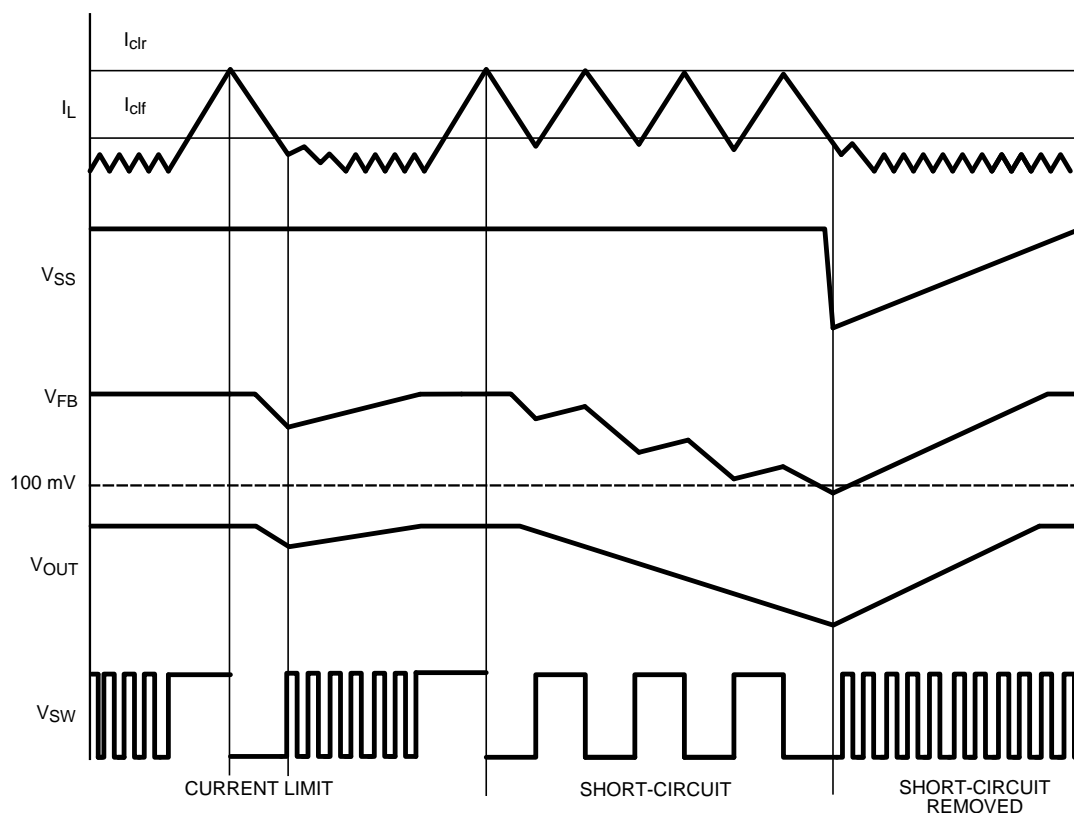

Figure 25. Current Limit Conditions
A current limit condition will cause the internal soft-start voltage to ramp downward. After the internal soft-start ramps below the Feedback (FB) pin voltage, (nominally 0.6 V), FB will begin to ramp downward, as well. This voltage foldback will limit the power consumption in the device, thereby protecting the device from continuously supplying power to the load under a condition that does not fall within the device SOA. After the current limit condition is cleared, the internal soft-start voltage will ramp up again. Figure 25 shows current limit behavior with V_{SS} , V_{FB} , V_{OUT} and V_{SW} .